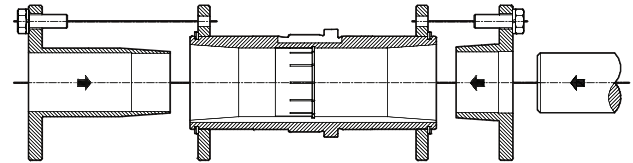

Figure 6 – Short Shaft Bushing and Output Hub Assembly
2. The long bushing is designed to be installed from the side of the reducer opposite the driven equipment as shown in Figure 6. The long bushing when properly installed is designed to capture the end of the customer shaft that does not extend through the reducer. Normally the reducer would be mounted such that the input shaft extends from the side of the reducer opposite the driven equipment however the reducer design allows installation of the reducer to be mounted in the opposite direction.
3. Install the tapered bushing wedge into the hollow bore of the reducer from the same side as the long bushing will be installed. When installing the tapered bushing wedge into the reducer hub, install the flange end first so that the thin taper is pointing outwards towards the long bushing as shown in Figure 6. The wedge is properly installed when it snaps into place in the reducer hub.